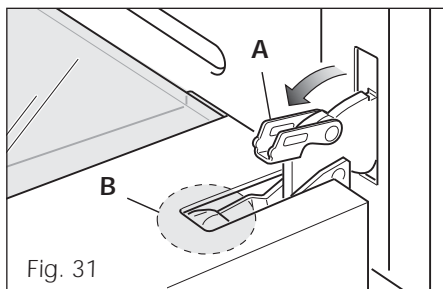
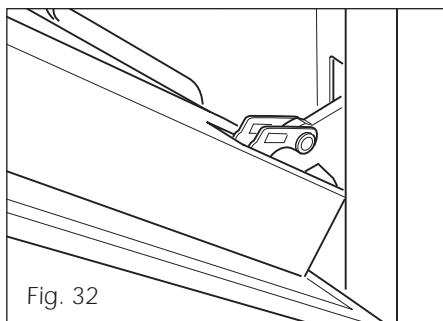

Fig. 31
Fig. 32
- Fully open the lever **A** on the left and right hinges (Fig 31).
- Gently close the door (Fig. 32) until the left and right hinges are hooked to part **B** of the door (Fig. 31).